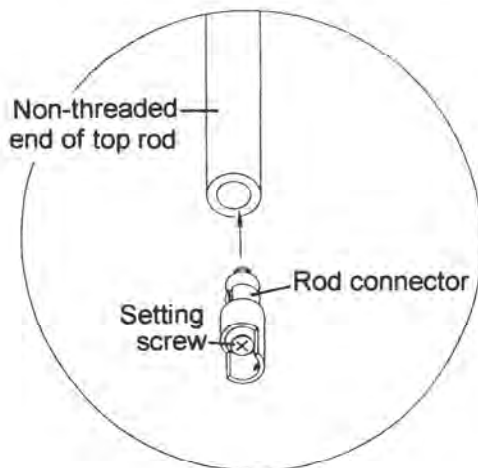

Figure 10
4. Insert rod connector into the non-threaded end of top rod and fasten the setting screw securely. (See Figure 10.)